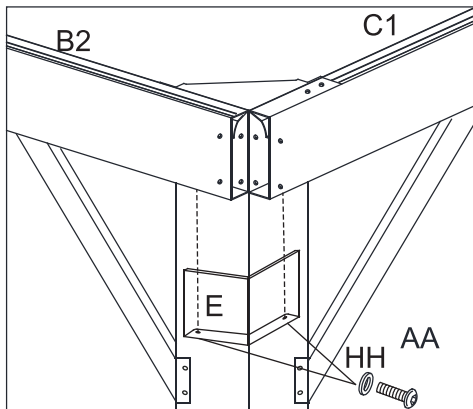

Figure 8.1
8.1 Attach Lintel Cover - Corner (E) to the Lintels (B1 and C2) and Lintels (C1 and B2) with Bolts (AA) and Washers(HH). See Figure 8.1.